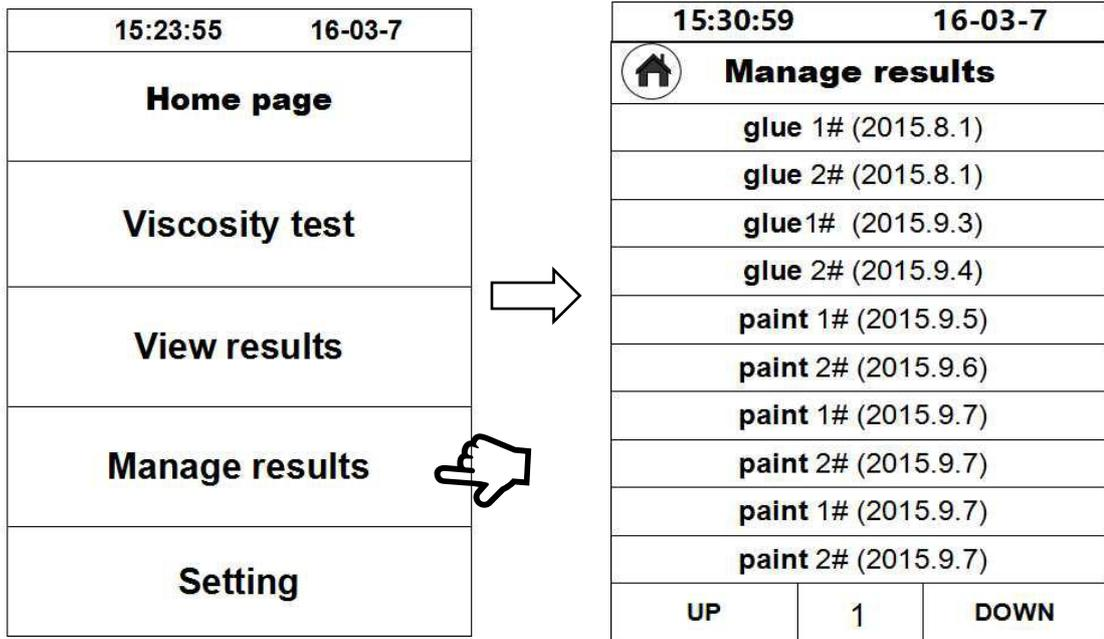

Fig. 27
3. Manage the test data: click “Manage the test data” to display the saved test data on the screen (Fig. 27), and then select and delete the record required.